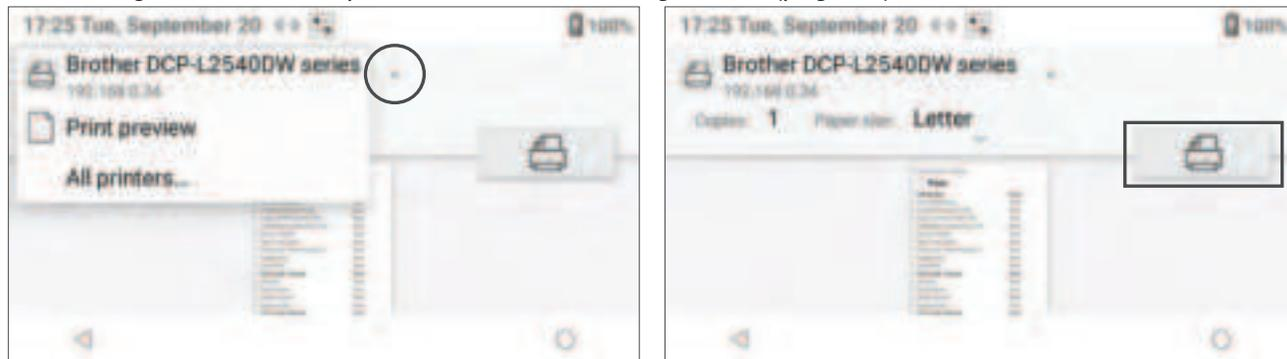

Figure 66: Print EQC Test Result
- **Print the test result** – Select  (Result Details) and then select  (Print). Select the desired printer from the drop-down list and then select  (Print) to print the test result (*Figure 66*). To configure the network printer, see “Printer Configuration” (page 68).